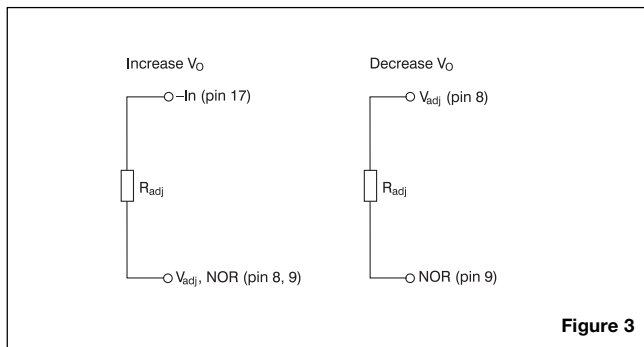

Figure 3
**To decrease  $V_{Ion}$**  a resistor should be connected between pin 10 and 11 (see fig. 3).